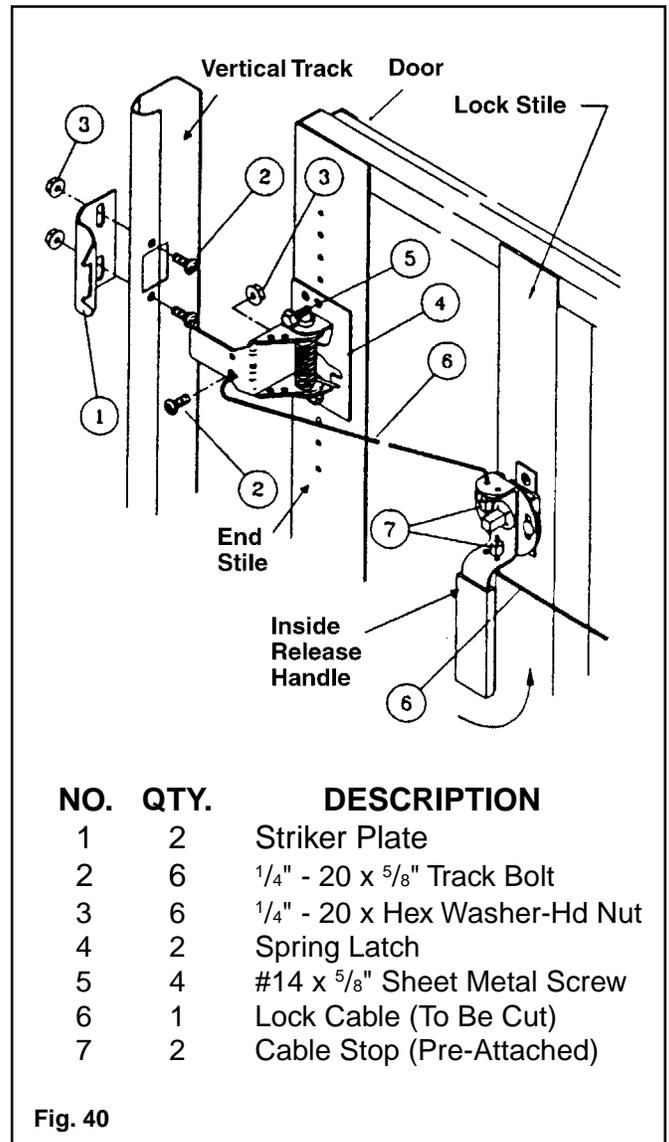

Fig. 40
**Step 1:** Once the door is completely assembled attach the striker plate (1) to the track using two 1/4" x 5/8" track bolts (2) and two 1/4" flange nuts (3). Insert bolts through the two 9/32" holes located top and bottom of the large knock-out. **NOTE:** Be sure the striker plate wraps around the back of the track as shown. Do not tighten. (FIG. 40)
**Step 2:** Place the spring latch (4) on the end stile of the door section and align the spring latch with the striker and the holes in the stile. Secure using two #14 x 5/8" sheet metal screws (5). Make sure that the striker fits around the spring latch and secure in place.
**NOTE:** If the lock is located in the center of the door width, cut lock cable (6) in half and go to step three.
**Step 2:** Take the lock cable (6) and, using the measurement just obtained, measure from the inside of the cable stop (7) and cut cable.